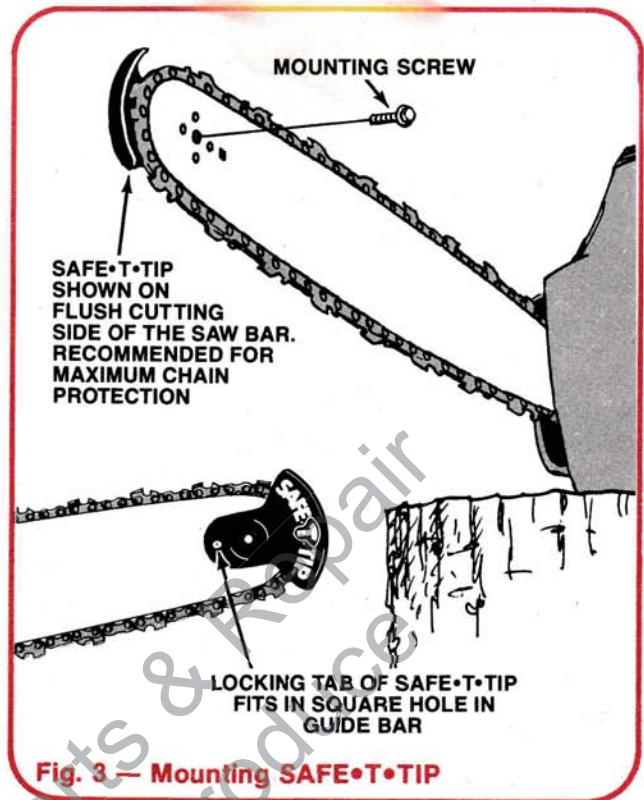

Fig. 3 — Mounting SAFE•T•TIP
3. Although the SAFE•T•TIP is reversible on the bar, we recommend mounting it on the flush-cutting side of the guide bar as shown in Figure 3. On either side, the SAFE•T•TIP, when properly installed and tightened, covers the chain at the nose section of the bar to eliminate kickback. It also protects the chain at the nose section from running into the ground or stones.
4. Put the SAFE•T•TIP locking tab into the square hole in the nose of the guide bar. Insert the mounting screw with your fingers only (see Figure 3).